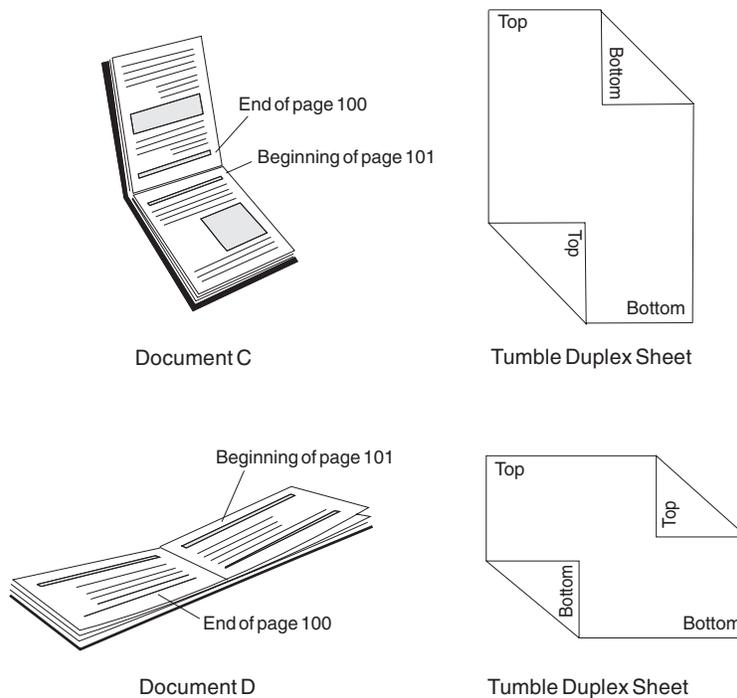

Figure 24. Duplex documents C and D specified as tumble duplex
- If the sheets are to be bound on the short edge of the paper, as Document C and Document D are in Figure 24 on page 58, specify *tumble duplex*.
Figure 24 on page 58 shows Document C and Document D printed with tumble duplex. Notice that the pages are printed in the *portrait position* for Document C and in the *landscape position* for Document D.